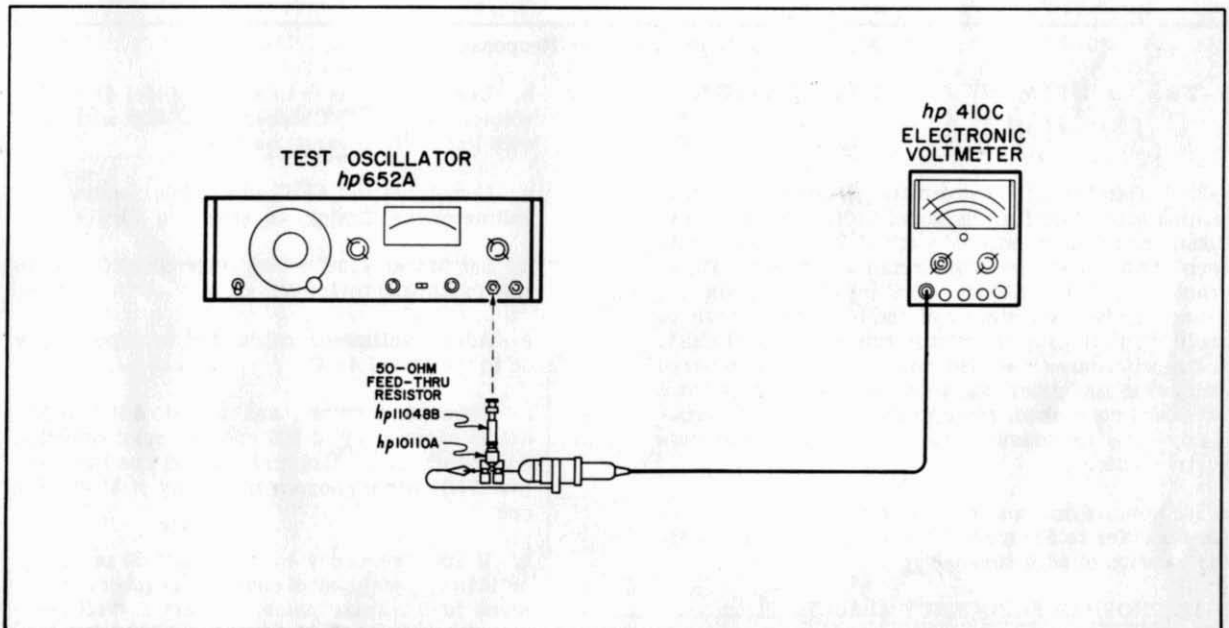

Figure 5-3. Low Frequency Response Test
- b. Connect Model 410C as shown in Figure 5-3.